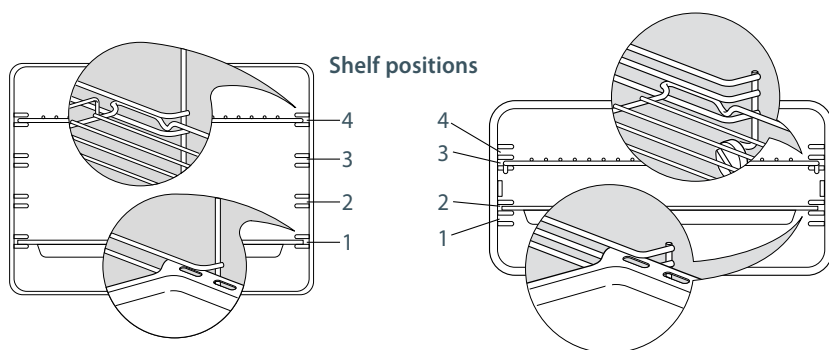

Fig. 13 Correct position of shelves and grill tray - full and compact ovens
- Slide in the shelf/shelves and grill tray as shown in Fig.13 below. Fit them between the metal wires of the side racks, with the safety stop notch down and at the back.